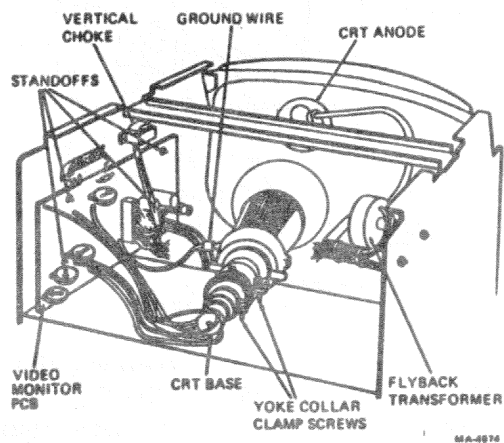

Figure 5-14 Elston/DIGITAL Video Monitor Board Removal
2. Remove the circular connector from the base of the CRT (Figure 5-14).
5. Disconnect the circular connector from the CRT base (Figure 5-14).